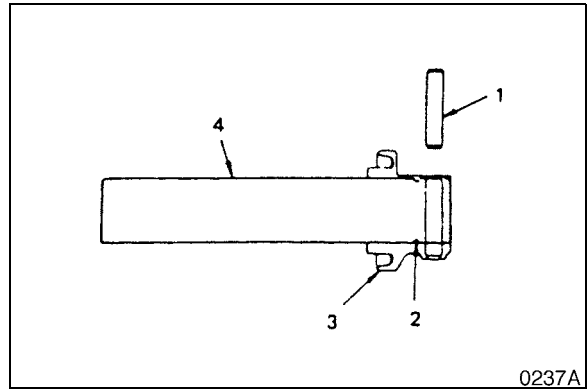

Figure 33
- Align collar (3, Figure 33) and axle (4) pin holes and pin (1) the collar.